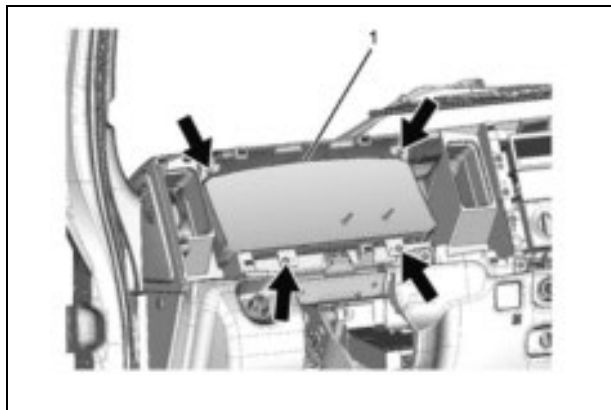

Figure 20
16. Remove the instrument panel cluster from the instrument panel. Remove four (4) T25 screws and disconnect one (1) connector. (See Figure 20.)